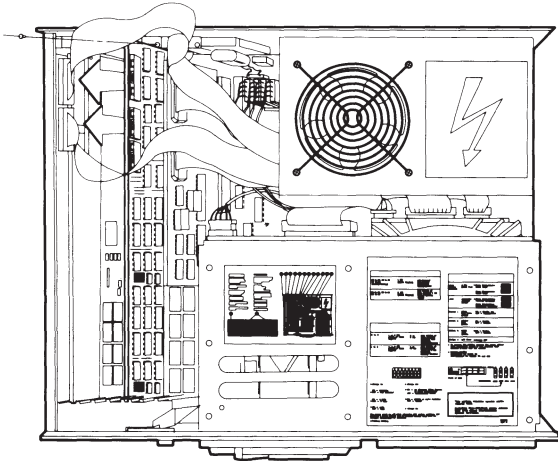

Figure 7-22. Removing the ESDI Fixed Disk Drive Controller Board Signal Cables.
6. Disconnect any signal cables attached to the expansion board (Figures 7-22, 7-23, 7-24).